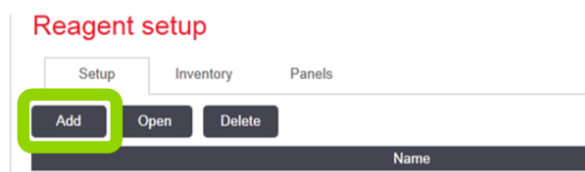

Figure 6: Add reagent button
- From the **Setup** tab, click the **Add** button (see Figure 6).